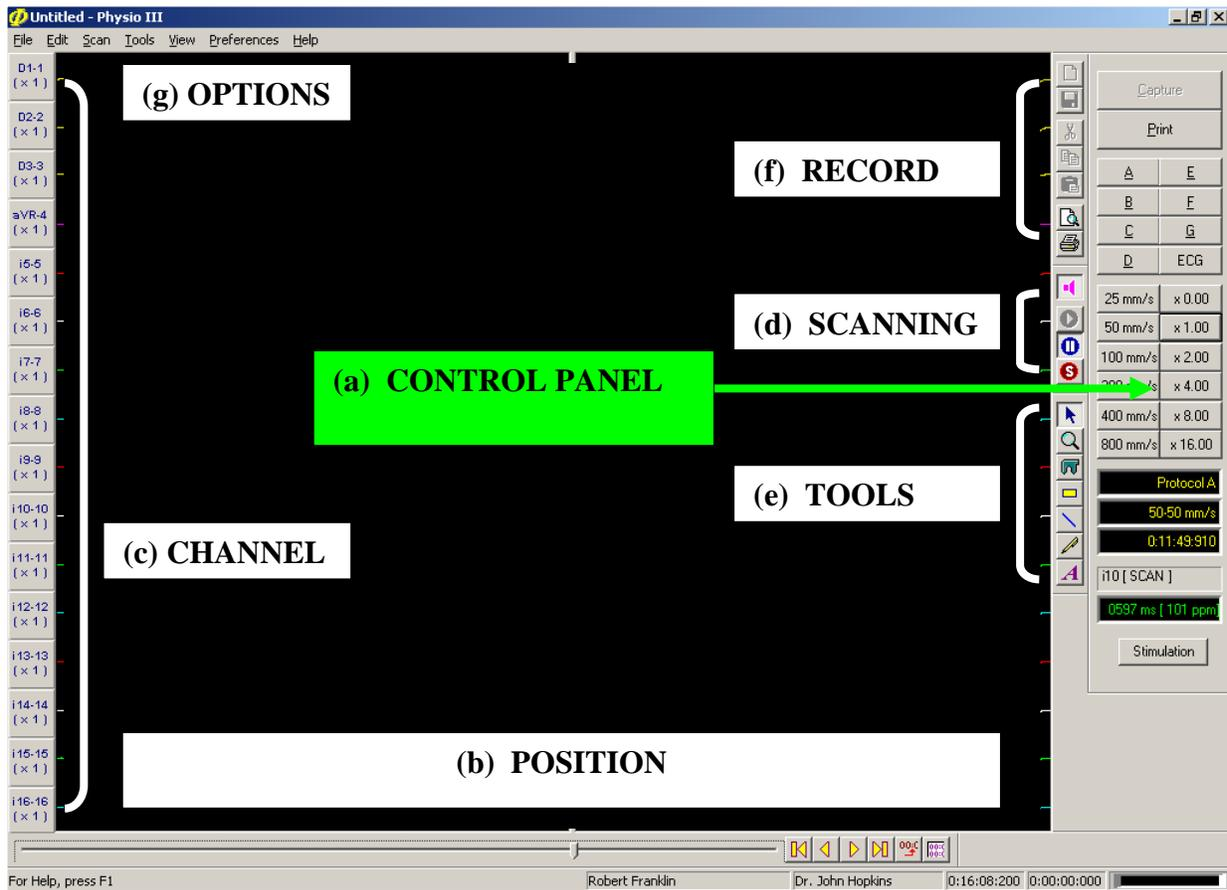

Figure 06
- f) Click the button  on the "Scanning Control" bar [(d) in **Figure 06**] to begin the study.
- a) Click on the **SCAN** button in the **Option Menu** [(g) in **Figure 06**] and then click on the **STOP** button. Click on **YES** to answer the question and then press **Accept**.
- b) Click on the Icon with "diskette shape" in the **Record Control** bar [(f) in **Figure 06**].
IMPORTANT: to capture an image the save mode must be enabled. This is done by pressing the button in the Scanning Control bar [see (d) in Figure 06].